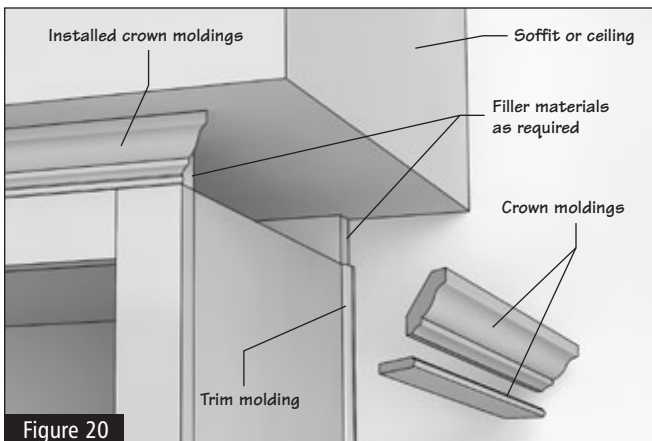

Figure 20
- 7.2** Crown moldings mount along the top edge of the cabinets. If your cabinets are full overlay, you may need to install some blocking material to the top of the cabinet first. (Figure 20)